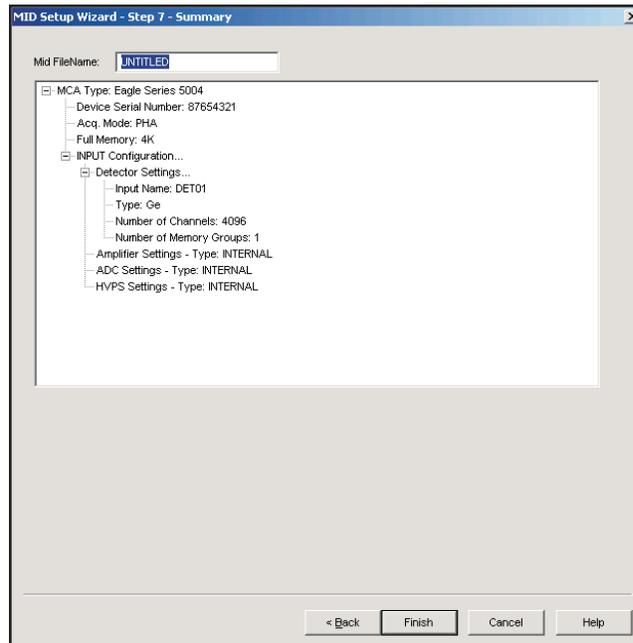

Figure 14 A Typical Definition Summary
Step 7 (Figure 14) lets you review a summary of the Input Definition and asks you to enter the definition's MID FileName.
The Input Name field at the top of Figure 14 defaults to UNTITLED, which you'll probably want to change to something more meaningful. If the name you enter is the same as that of an existing MID file, the system will ask if you want to overwrite the existing file.